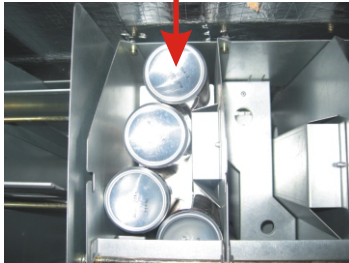

Figure 30
7. Load your cans or bottles in front of the spacer. You will feel some resistance from the sensor flap as you push the cans/ bottles down into place (*Figure 30*).